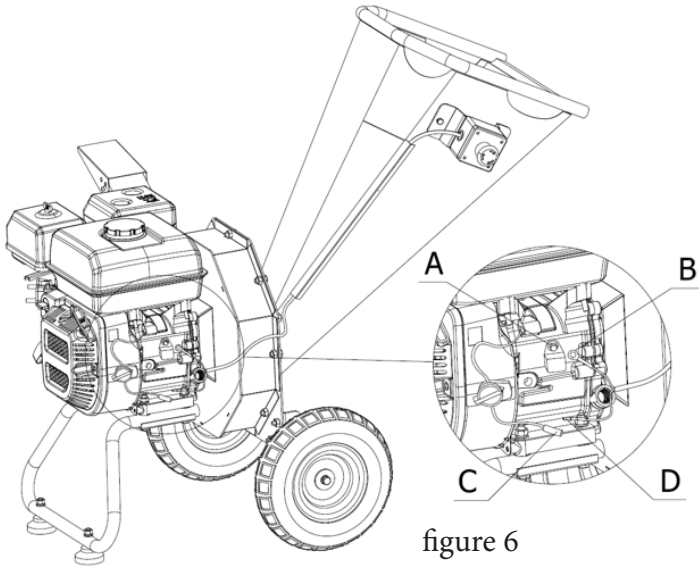

figure 6
**EN/Adding Oil (See Figure 6)**